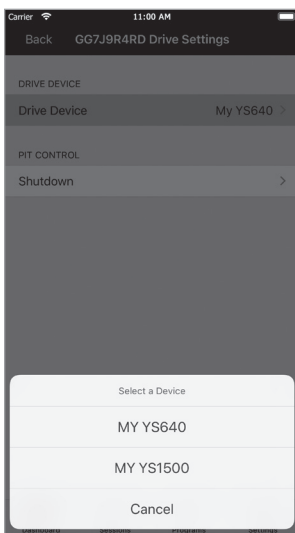
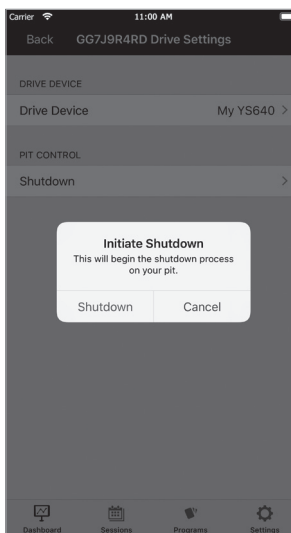

FIG 33
FIG 34
- Tapping the small wrench icon in the upper right of the gray bar will take you to a section that allows you to choose between multiple cookers (if you have more than one paired to your mobile device) (FIG 33) and also allows you to shut down your cooker (FIG 34).